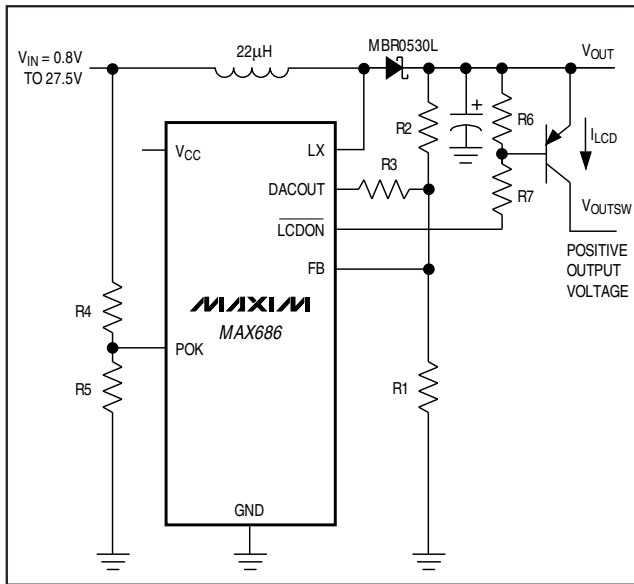

Figure 6. Using the POK for Input Voltage Monitoring
POK is the input to the power-OK comparator. The comparator drives an internal N-channel MOSFET. The MOSFET's open-drain output, $\overline{\text{LCDON}}$, can drive an external PNP transistor or P-channel MOSFET, switching a positive V_{OUT} to the LCD (Figures 6 and 7). When the voltage at POK exceeds 1.125V (power OK), $\overline{\text{LCDON}}$ goes low, turning on the external PNP transistor. When the voltage at POK drops below 1.125V (power not OK), the external PNP transistor turns off, cutting off power to the LCD display. This feature ensures that the LCD display is not damaged due to improper voltage levels. During shutdown or undervoltage lockout, $\overline{\text{LCDON}}$ is high impedance.
When the voltage at POK is greater than 1.125V (typical), the open-drain $\overline{LCDON}$ output pulls low. $\overline{LCDON}$ can withstand up to 27.5V to control an external PNP transistor to switch on the MAX686's positive output (Figures 6 and 7). A PFET can also be used, but a resistor-divider must be used in conjunction with it, so that the PFET does not exceed its V_{GS} rating. Three useful applications of this feature are as follows:
- *An input-sensing cutoff for positive outputs.* Connect POK to a voltage divider to sense the input voltage. The output switches on only when the input reaches the set level (Figure 6).
For input voltage sensing, a resistor-divider (R_4 - R_5 , Figure 6) from V_{IN} to POK controls the open-drain output $\overline{LCDON}$, which pulls low when $V_{POK} > 1.125V$. Choose $R_5 = 100k\Omega$. For example, if the minimum battery voltage is 5.3V, then determine R_4 as follows: